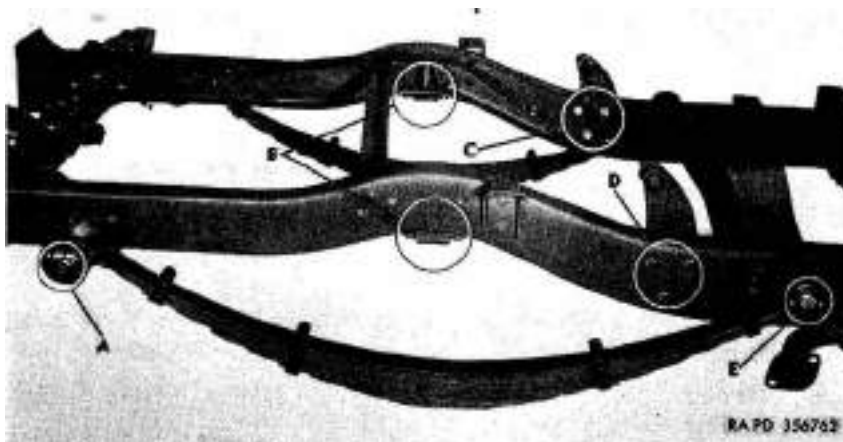

Figure 31. Rear suspension disconnect points.
- (2) Remove front spring torque arrester assemblies from frame (three nuts, lock washers, and cap screws, each side) (E).
- (3) Remove front shock absorber frame brackets (two nuts, lock washers, and cap screws each side) (B and G).
b. *Remove Rear Spring Assemblies and Shock Absorber Frame Brackets (fig. 31).*
- (1) Remove nuts, lock washers, and cap screws from frame
- (2) Install rear shock absorber frame brackets (fig. 31)
(three $\frac{3}{8}$ -18NF x 1" cap screws (D, fig. 31), $\frac{5}{8}$ -inch internal-external-teeth lock washers, and $\frac{5}{8}$ -18NF nuts (C, fig. 31), each side).
- (1) Install rear axle bumper assemblies (B, fig. 31) on lower flange of both frame side rails (two $\frac{3}{8}$ -24NF x 1" cap screws (head down), $\frac{1}{2}$ -inch lock washers, and $\frac{3}{8}$ -24NF nuts).
- (3) Install rear spring assemblies complete with shackles (fig. 31). This includes spring bolts (A and E, fig. 31) ; four $\frac{3}{8}$ -24NF x $2\frac{1}{2}$ " cap screws (A and E, fig. 31) in the frame rear spring brackets, which lock the spring bolts in their operating position ; $\frac{1}{2}$ -inch lock washers ; and $\frac{3}{8}$ -24NF nuts.